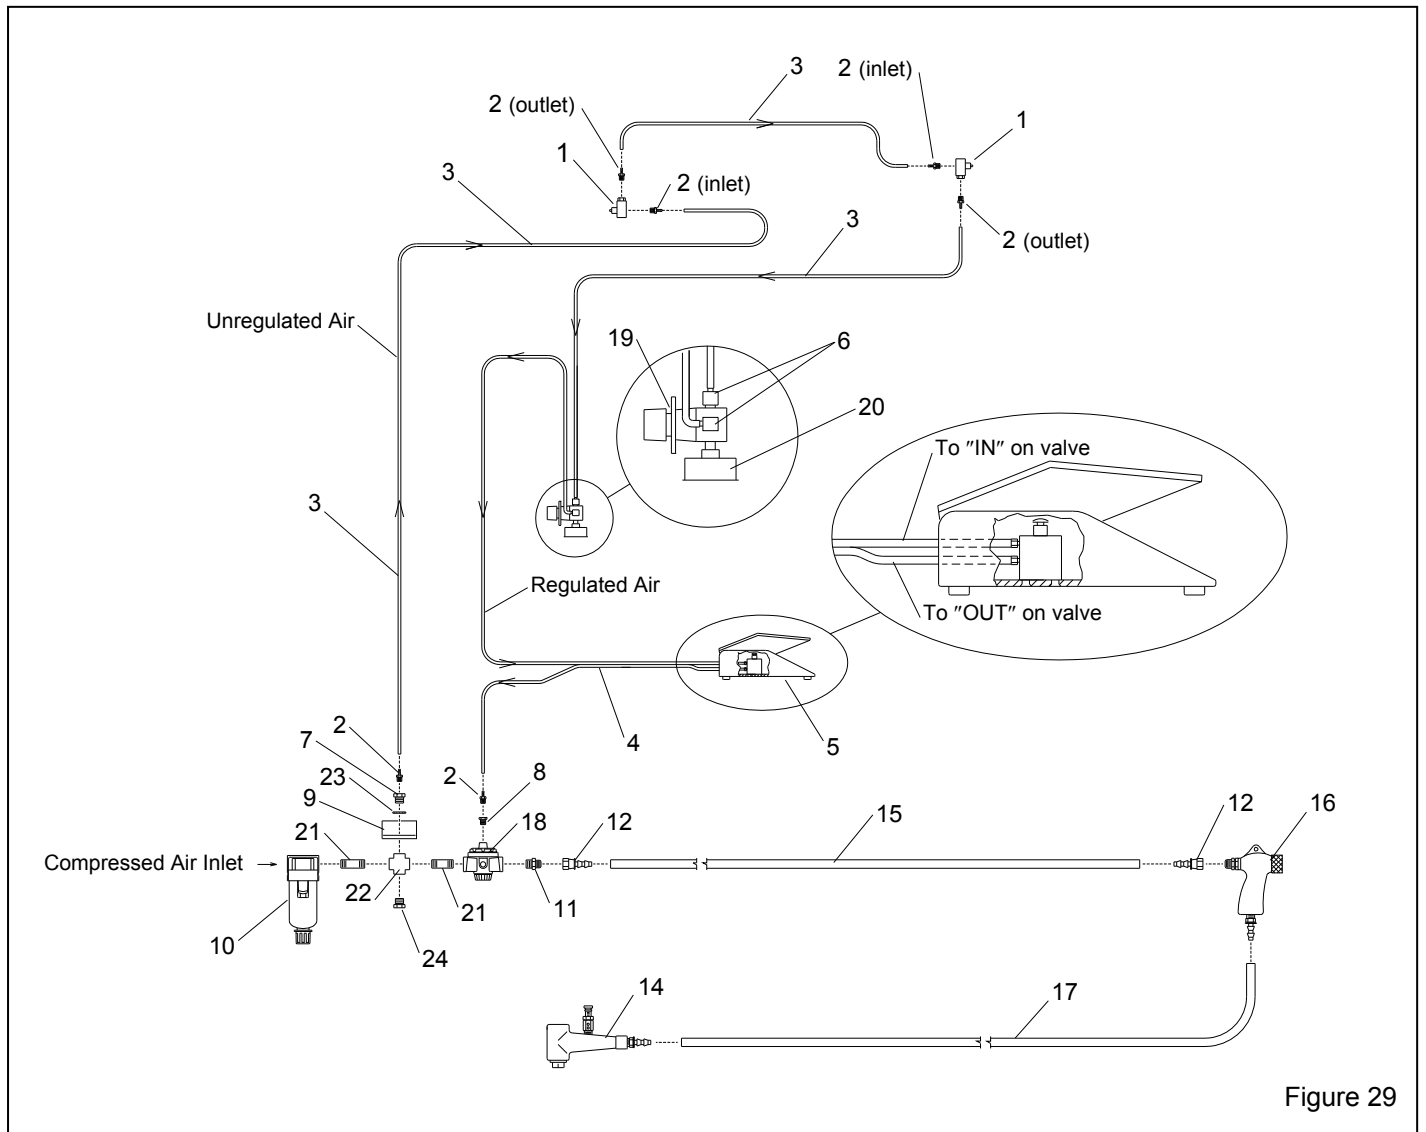

Figure 29
8.7 Cabinet Plumbing Assembly, Figure 29